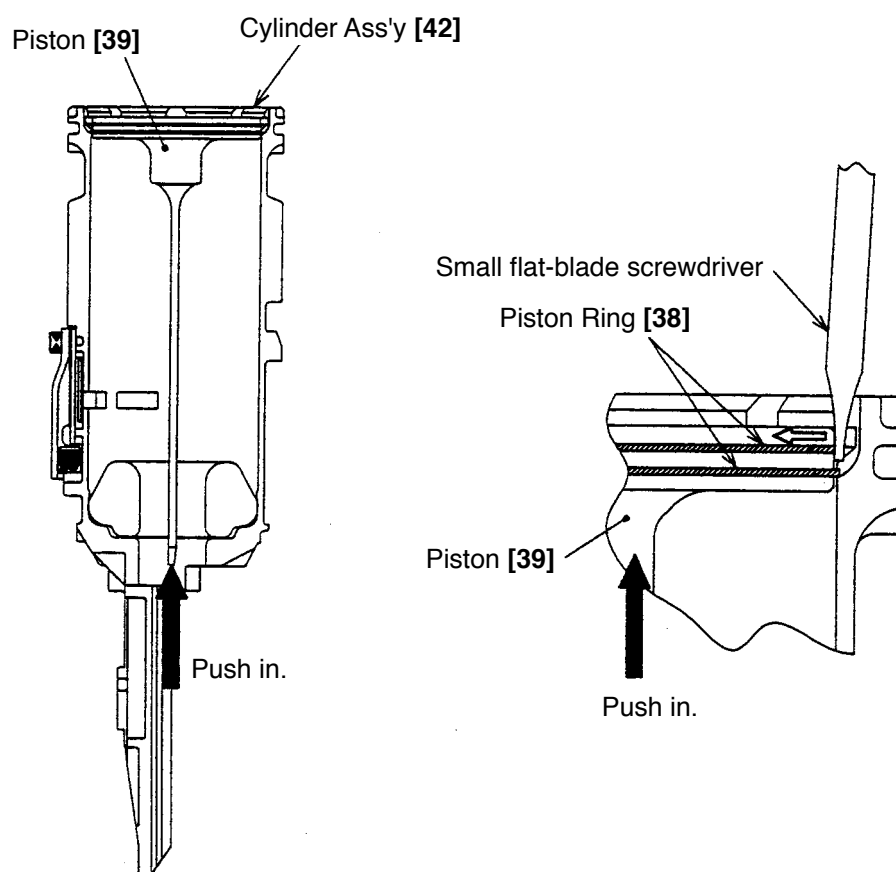

Fig. 35
- Remove the Retaining Ring [37] with the retaining ring puller for C-type hole. Insert a finger into the outlet of the Cylinder Ass'y [42] and push the tip of the Piston [39] straight up. Then the Piston [39] can be removed from the Cylinder Ass'y [42]. If the Piston Ring [38] fits in the retaining ring groove inside the cylinder, insert a small flat-blade screwdriver into the concave portion of the cylinder and fit the Piston Ring [38] in the piston ring groove of the Piston [39]. Then the Piston Ring [38] can be removed by pushing the Piston [39] up (Fig. 35).